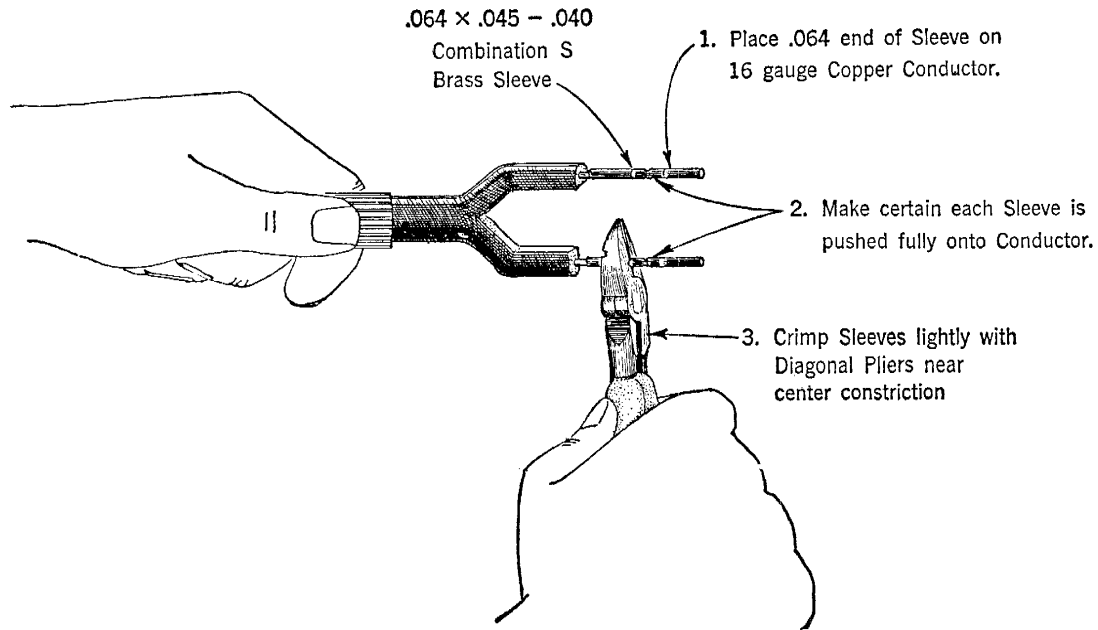

Fig. 2
**3.01** Place the 064 end of an 064 × 045 — 040 Combination S Brass Sleeve on the 16-gauge copper conductors of B or C Underground Wire or the 154A Coil Case as shown in Fig. 2.